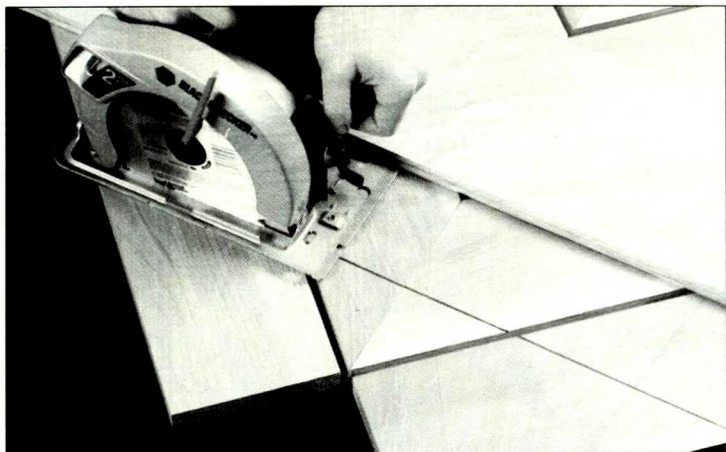

Figure 4: Trim corners to make the top into an octagon. Use a straightedge guide to obtain a nice straight cut.
- Cut the octagon by laying a long straightedge across the table so it goes through the center point. Use a framing square to adjust the straightedge so it is perpendicular to the outside edge of the last ring (R). Mark where the straightedge crosses the outer edges of the last ring (this will give you the centers of two sides of the octagon). Turn the straightedge 90 degrees and repeat this procedure.
- Clamp a straightedge to the top to guide your circular saw while trimming the ends of rings Q and R (Figure 4).